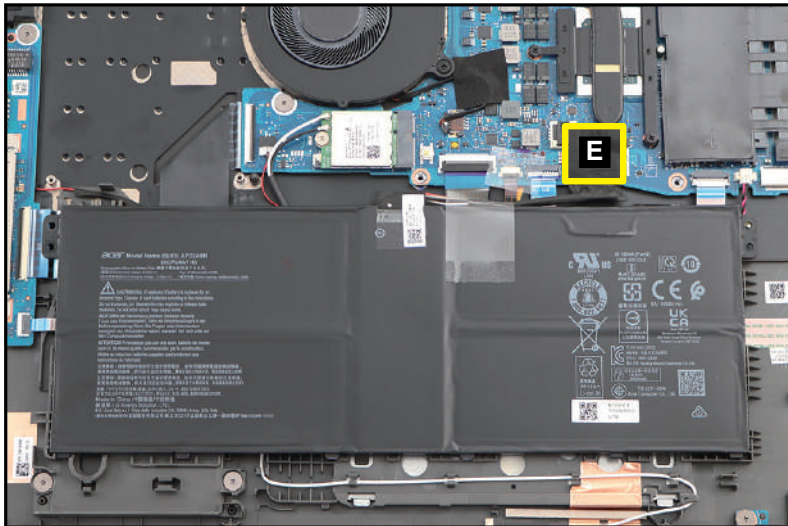

Figure 3-166. Replacing the Battery Pack
4. Attach the tape (E) to secure the battery cable connection (Figure 3-166).